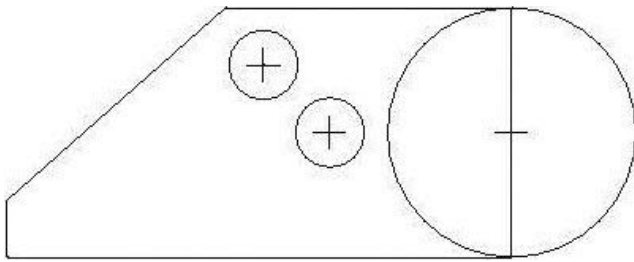

Figure 3-20 Delete Lines and Add Circles
- Step 6:** Use  to draw a circle on the right end as shown in Figure 3-20. Also, draw two circles in the interior of the figure. Draw the first circle at the same horizontal position as the big circle, then draw a second circle the same size as the previous circle centered up and to the left of it as shown. Press MMB to terminate this command.